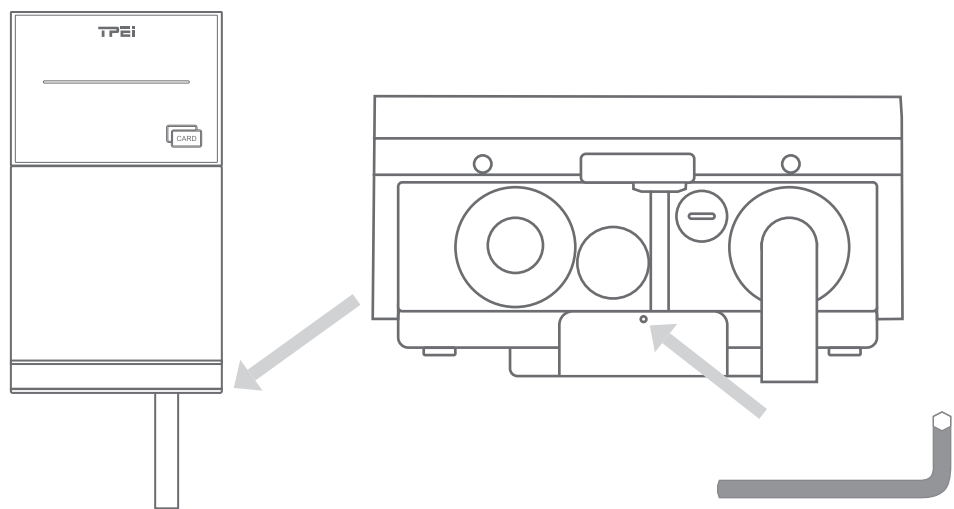

Fig. 5-9
7. Fix the charger to the bracket with the hexagon socket head screw included in the package, using the provided hex screwdriver. (See Fig. 5-9)